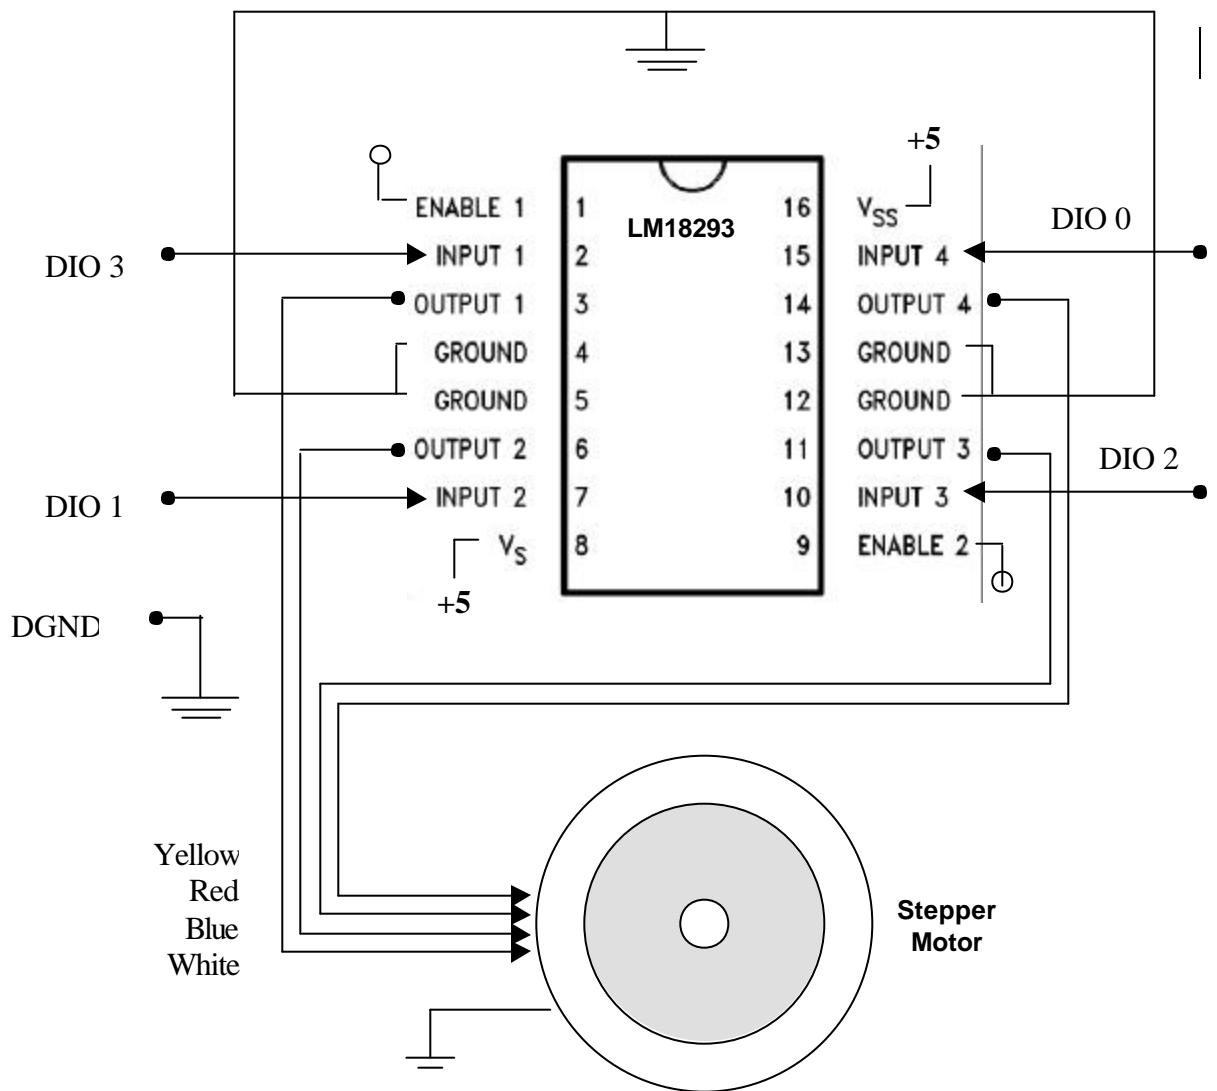

Figure 4 – Connection Schematic
- l. A Quotient and Remainder VI. This will be used to wrap the index over the 8 elements of the array. You will use it to divide the output of the adder in “e” with a constant integer (8), and take the Remainder as the actual index to the array.
- m. A Write To Digital Port VI to send the value obtained from the array to the digital port of the 6024E. Configure the output so that you send to Port 0 (PA) of device 1 (6024E). The default port length is 8 but we are using only 4 bits (the least significant bits of the word).
4. After finishing your code save it to the floppy disks. Next, you need to connect the DAQ digital output pins with the motor and the current driver IC. Follow the connections in the diagram in Figure 4.